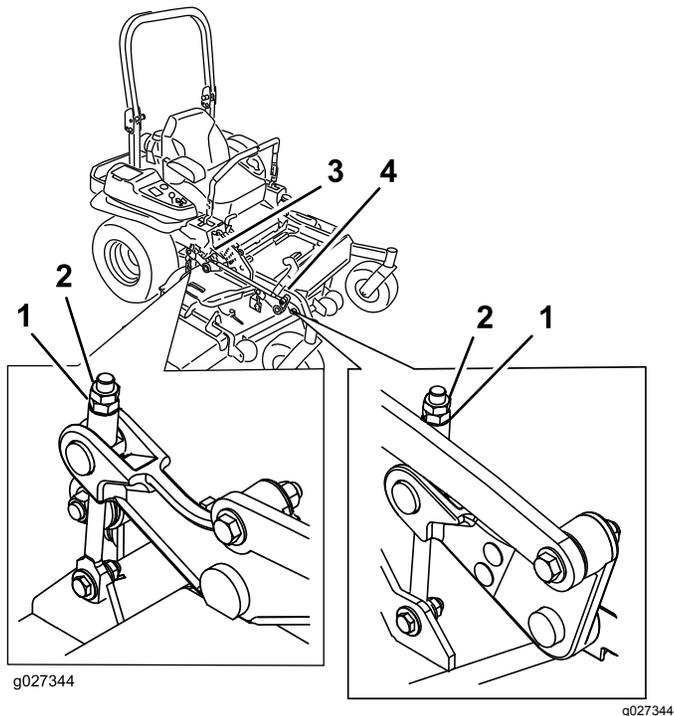

**Figure 94**
9. On both sides of the deck, measure from the level surface to the front tip of the blade (Position A) as shown in Figure 94.
- On both sides of the deck, measure from the level surface to the back tip of the blade (position B) as shown in Figure 94.